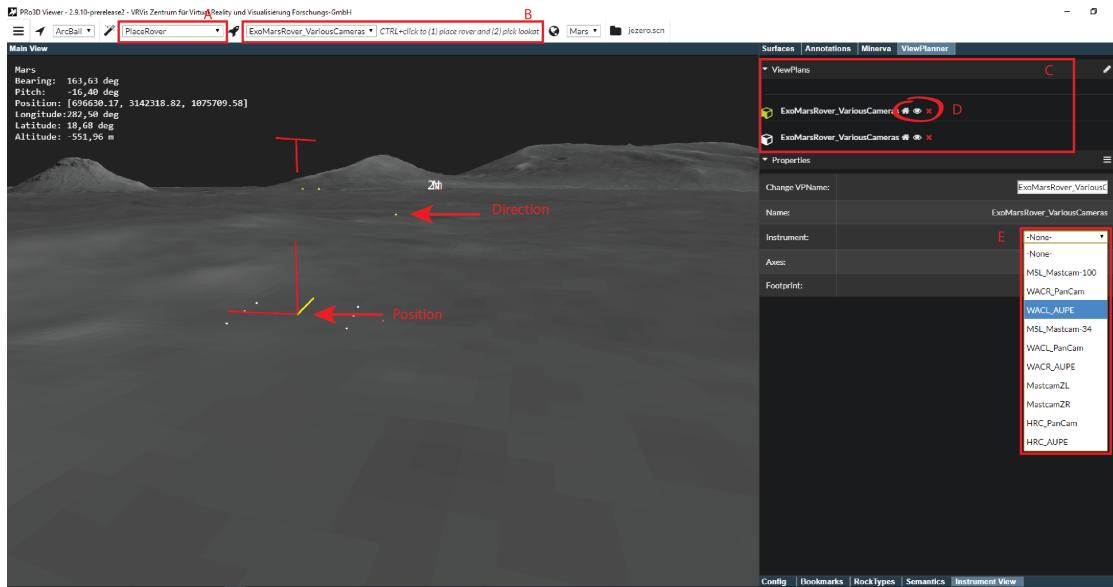

Figure 17: The view planner. The rover is placed on the surface in the main view (left). All rovers in the scene are listed in the ViewPlanner tab (right).
To use the View Planner make sure that a **rover.xml** file is in the **Release\InstrumentStuff** folder. Then you can place one or more rovers into your scene. Therefore set “PlaceRover” in the actions menu (Figure 17 A), select a rover model in the rover menu (Figure 17 B), press CTRL+LMB and pick two points on the surface in the main view. The first point (green) is the position and the second point (yellow) the viewing direction of the rover. In the ViewPlanner tab is a listing that shows all ViewPlans in the scene (Figure 17 C). There is a little menu beside each ViewPlan shown in Figure 17 D:
- Instrument: select an instrument (camera) from the list (Figure 17 E).